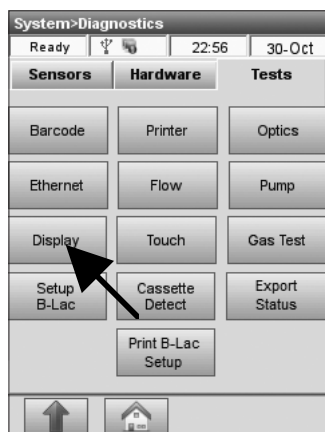

Fig. 8-29 Display Test
- Press **<Display>** to start the test (Fig. 8-29).